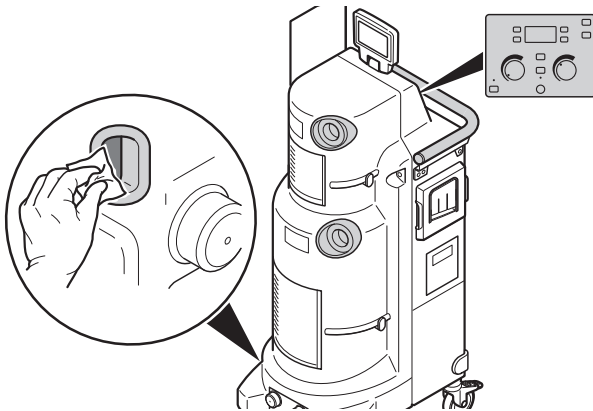

Figure 44 To Wipe Down the Rover
- Wipe critical areas such as the handle, control panel, manifold ports, and any other areas that may have become soiled, including the infrared communication window (Figure 44).